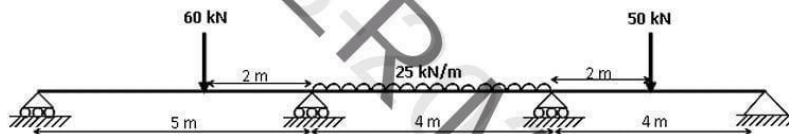

Figure 1
2. Using the moment-distribution method, analyse the continuous beam supported and loaded as shown in Figure 1. Also draw the shear force and bending moment diagrams. [15]